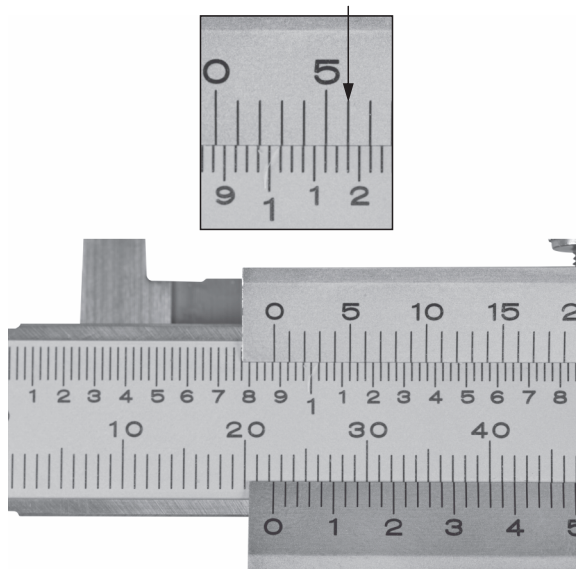

Figure 30: Reading a vernier caliper.
2. Which of the following measurements corresponds to the reading in inches shown in Figure 30? The small arrow shows a detail of the vernier scale.